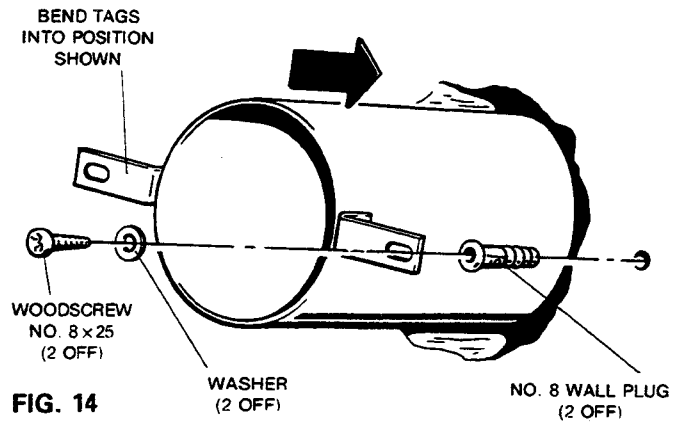

FIG. 14
- From the terminal assembly pack remove the wall liner and the two wall liner mounting screws, washers and wall plugs contained in the polythene bag. Measure the wall thickness and cut the wall liner to suit, remove the sharp edges. Bend fixing tag into position shown (see Fig. 14).
- e) Insert the wall liner with the seam uppermost and drill the two No. 8×30mm wall liner fixing holes and insert the two No. 8 wall plugs (see Fig. 14).
- f) Secure with the two screws and washers provided (see Fig. 14).